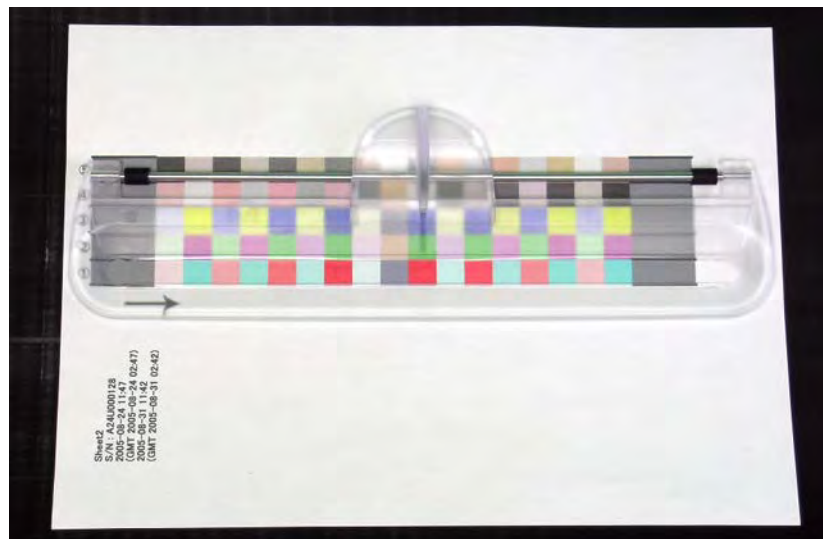

Figure 5-51. Setting the Chart and the Scanning Ruler
32. Refer to Figure 5-51, lay the chart on the black paper (or sheet) with the upper part of the chart facing left side, and set the scanning ruler onto the bottommost patch line.